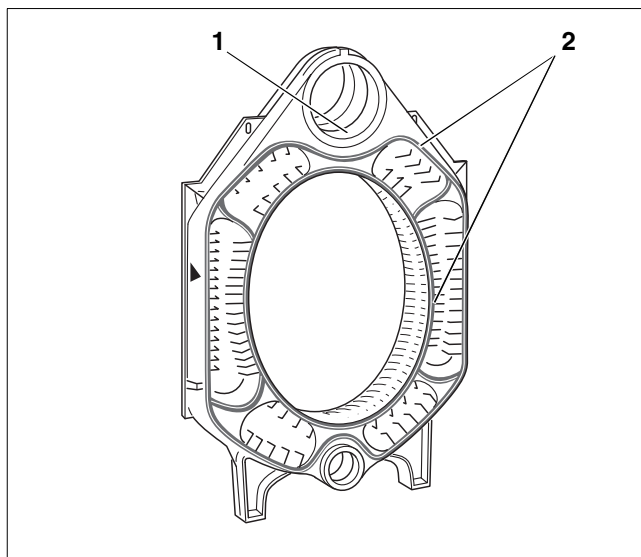

Fig. 14 Preparing middle section
- Apply red oxide paint to the sealing faces of the nipple ports (Fig. 14, **ref. 1**).
- Apply bonding agent (wash primer) to the sealing tongues (Fig. 14, **ref. 2**).